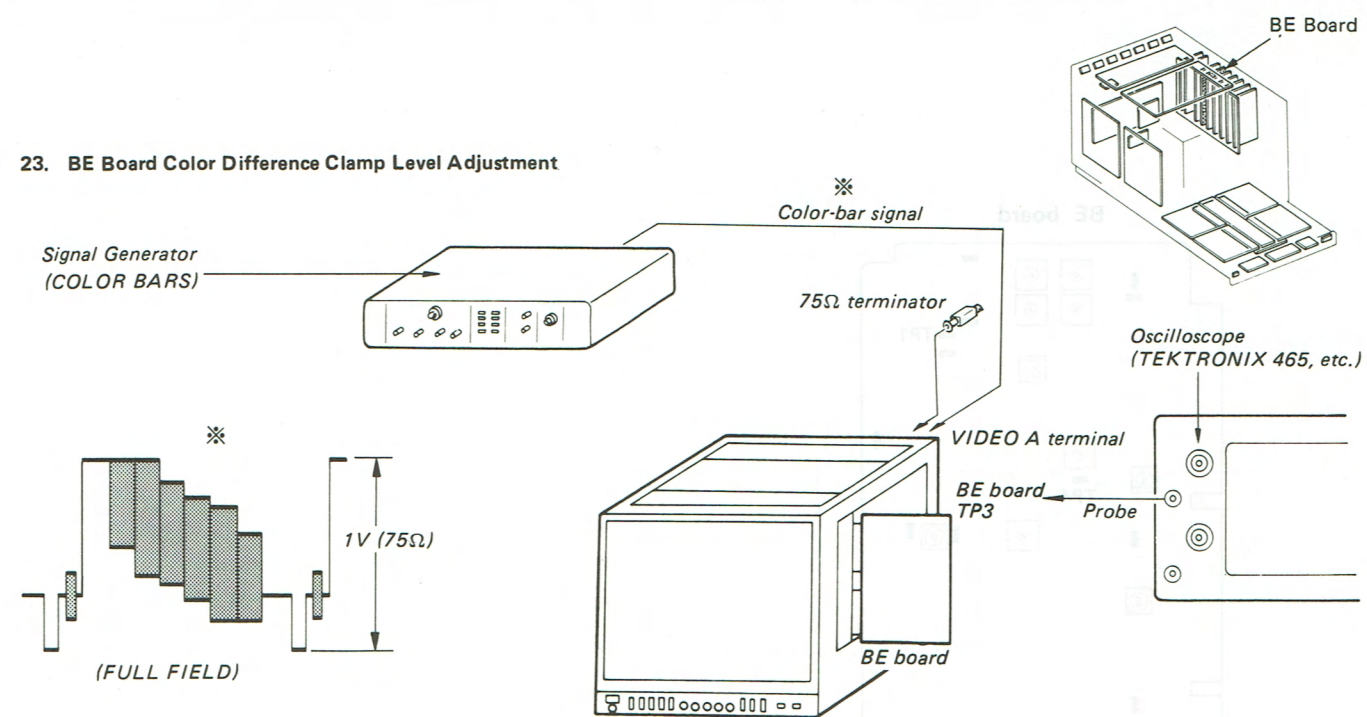

Fig. 23-1.
1. Complete the connections as shown in Fig. 23-1.